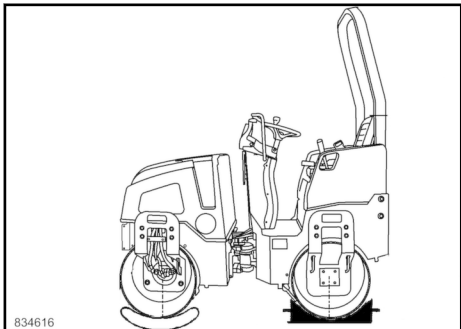

Fig. 123
1. Drive the drum of the machine onto an elastic base (rubber buffers) ↪ Fig. 123 and block the rear drum additionally with suitable chocks.